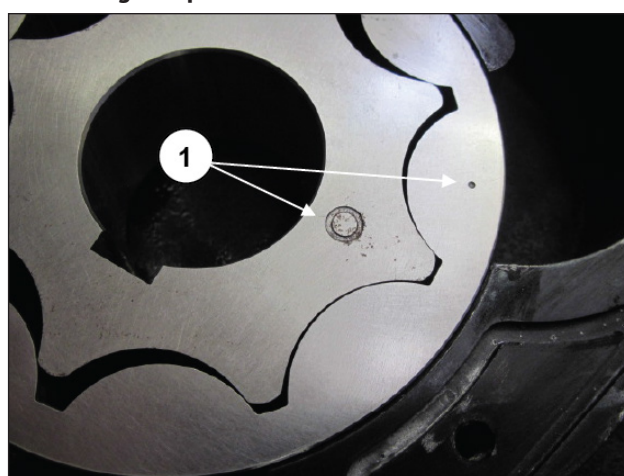

Fig. 153
When assembling the lube pump rotors orient the markings on the two parts as shown in Fig. 153 pos. ①.